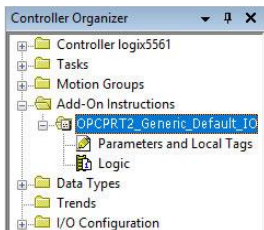

Figure 41: Generic Default IO Add-On Instruction
- 2) Right click on "Add-On Instructions" in the controller organizer view and select "Import Add-On Instruction". Browse and import the generic default I/O add-on instruction. Refer to Figure 41.